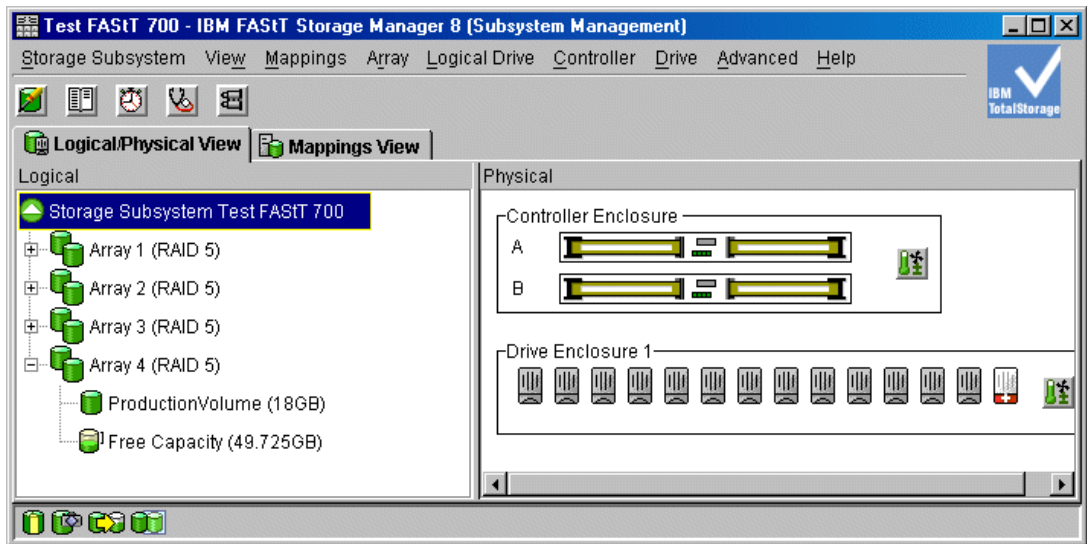

Figure 10-5 State of the volumes before FlashCopy
1. Volume with name ProductionVolume present in Array 4. The capacity of ProductionVolume is 18GB. See Figure 10-5 on page 327.